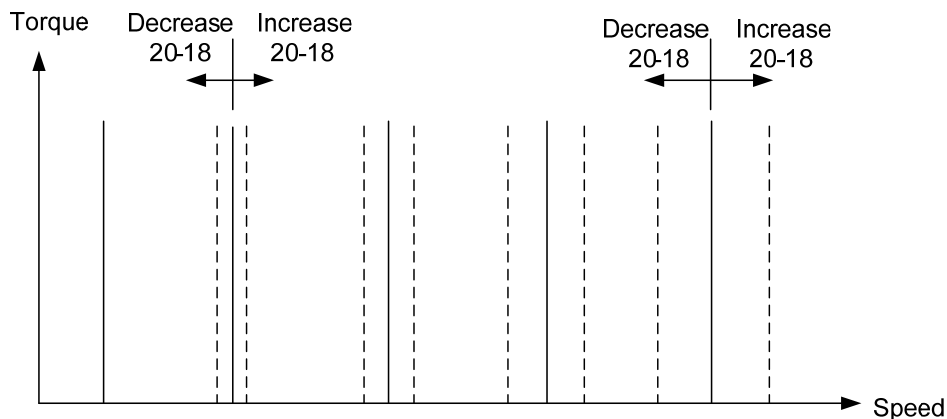

Figure 4.4.122 Effect on the torque-speed curve from 20-17
- Use parameter 20-18 to adjust the torque compensation gain for middle to high speed range. For most general purpose applications it is not necessary to adjust the 20-18. By tuning 20-18 an offset is added to the torque-speed curve. Increase 20-18 when the no-load speed is lower than the frequency reference. Decrease 20-18 when the no-load speed is higher than the frequency reference. The effect on the torque-speed curve from 20-18 is shown as the following figure 4.4.122.